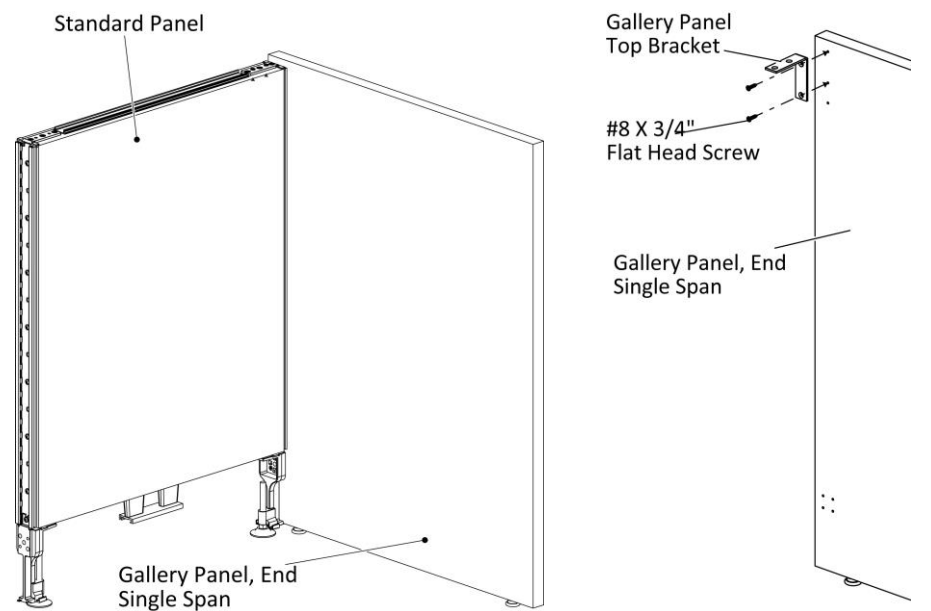

Figure 1
- 1. Insert the panel leg “U” cavity into the two slotted holes at the bottom of the raceway cover, (Figure 1).
1. Position and align two holes in the gallery panel top bracket to pre-drilled holes in the gallery panel, (Figure 1).